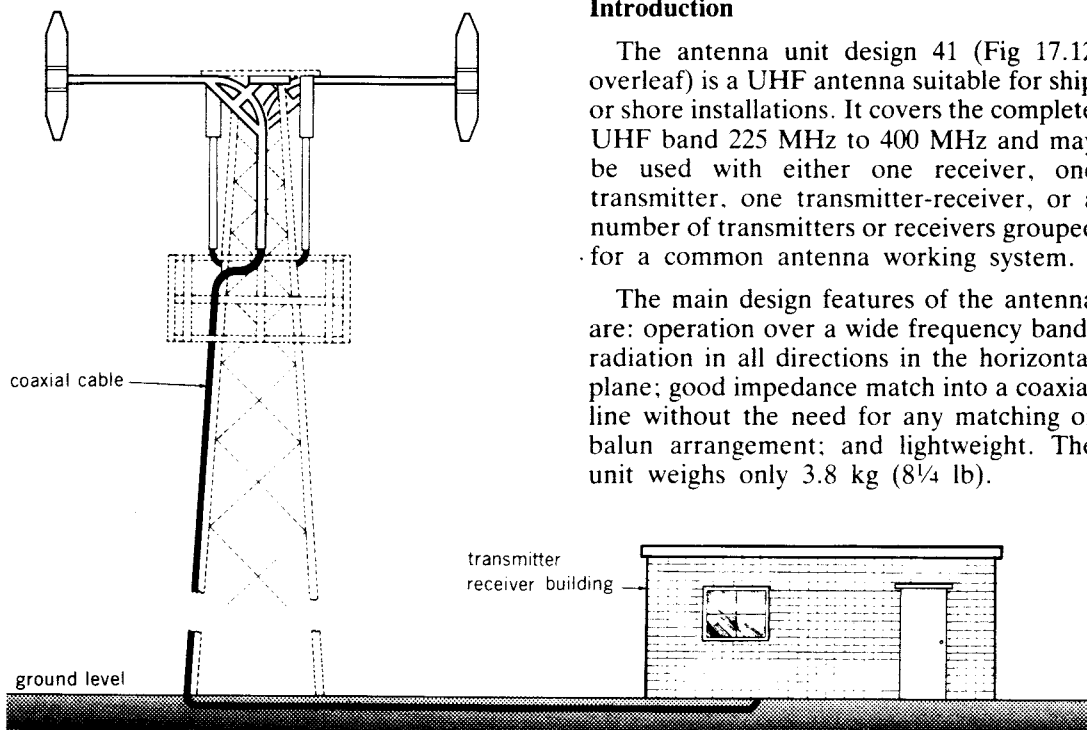

Fig 17.11 Type 298 Antenna System Mounted on a Lattice Mast
- Attach the gibbet to the tower at the two points shown in Fig 17.11 below. The bracket of the gibbet has a square plate connected to it with a swivel pin. This plate is attached to a U-section metal crosspiece on top of the tower by means of four ½ in nuts and bolts. This supports the weight of the gibbet, the lower end of which is clamped to the tower.
In Fig 17.11, the length of coaxial cable between the base of the mast and the building is shown buried in a trench. In some installations, this length of connector is carried above ground on a catenary.